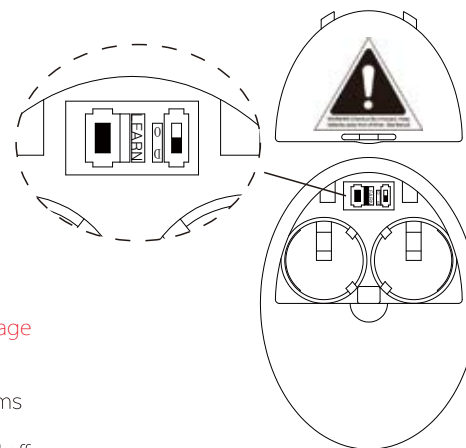

Fig. 19
## ACTIVATING THE LEARNING PROCESS(Fig.19)
2. After installation is complete, AC power is turned on within 30 seconds,press and hold the LEARN button for 3 seconds. Fan will turn on at medium speed and light (if installed) will turn on. This confirms that the SMART SYNC setting is active and ok. (FIG.19)
## LIGHT FUNCTION SELECT SWITCH(Fig.19)